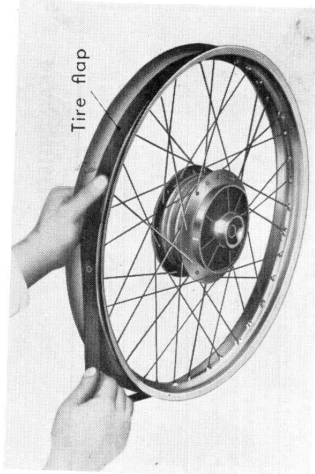

Figure 4-22. Installing tire flap
- (1) Reinstall the tire flap so that it is positioned over the spoke nipples. (Fig. 4-22)
- (2) Reinstall the tire and tube.